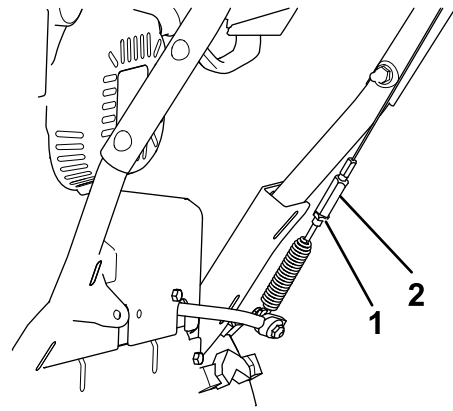

Figure 32
5. Loosen the jam nut (Figure 32).
6. Loosen or tighten the turnbuckle that adjusts the tension on the cable (Figure 32).